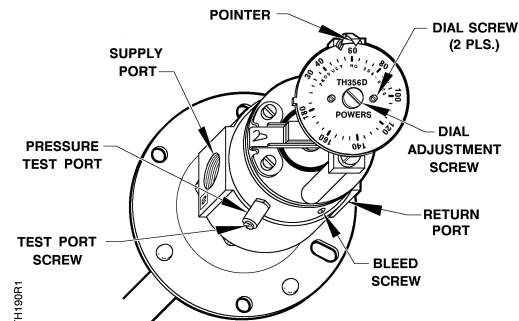

Figure 9. Limitem Cover Removed.
2. With a screwdriver, turn dial adjustment screw (Figure 9) to change to the desired setpoint.
3. If a permanent return air gauge is not installed, use the pressure test port. See Figure 9 for its location.
1. Loosen the dial screws. (Figure 9)